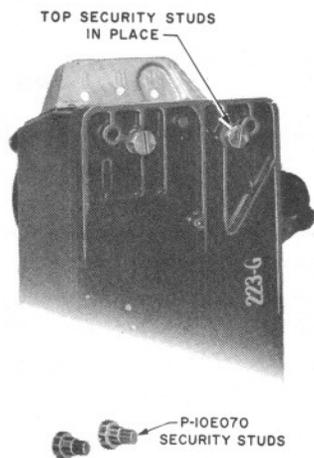

Fig. 5 — P-10E070 Security Studs
5.01 Coin collectors equipped with aluminum backplates provide four tapped holes to accommodate P-10E070 security studs which are designed to engage in keyhole slots of 174A and 167-type backboards and coin collector mounting panel of KS-14611 booths, thus keying backplate to backboard. This keying is in addition to eight normal mounting fasteners. Security studs are not furnished with coin collector and shall be ordered separately. See Fig. 5.